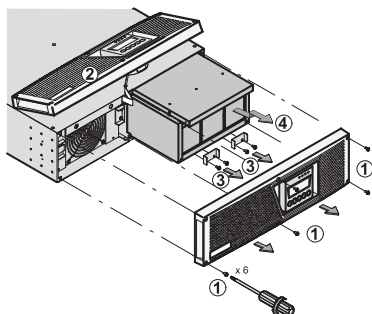

Figure 35. Removing the Battery Tray
1. Remove the UPS front cover (six screws). See Figure 35.